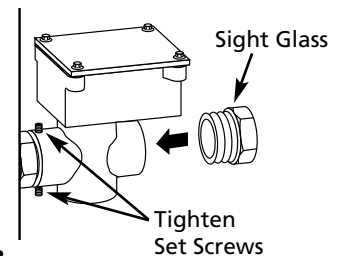

Figure 3
6. Tighten set screws in housing until snug and then re-install oil level sight glass on the front of the housing (See Figure 3).